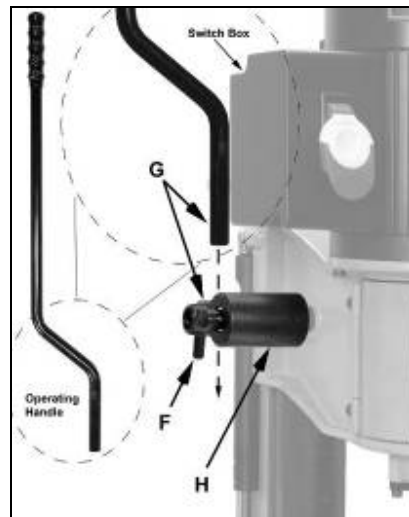

Fig 4
Insert the operating handle (G, Fig 4) into the bracket (H).